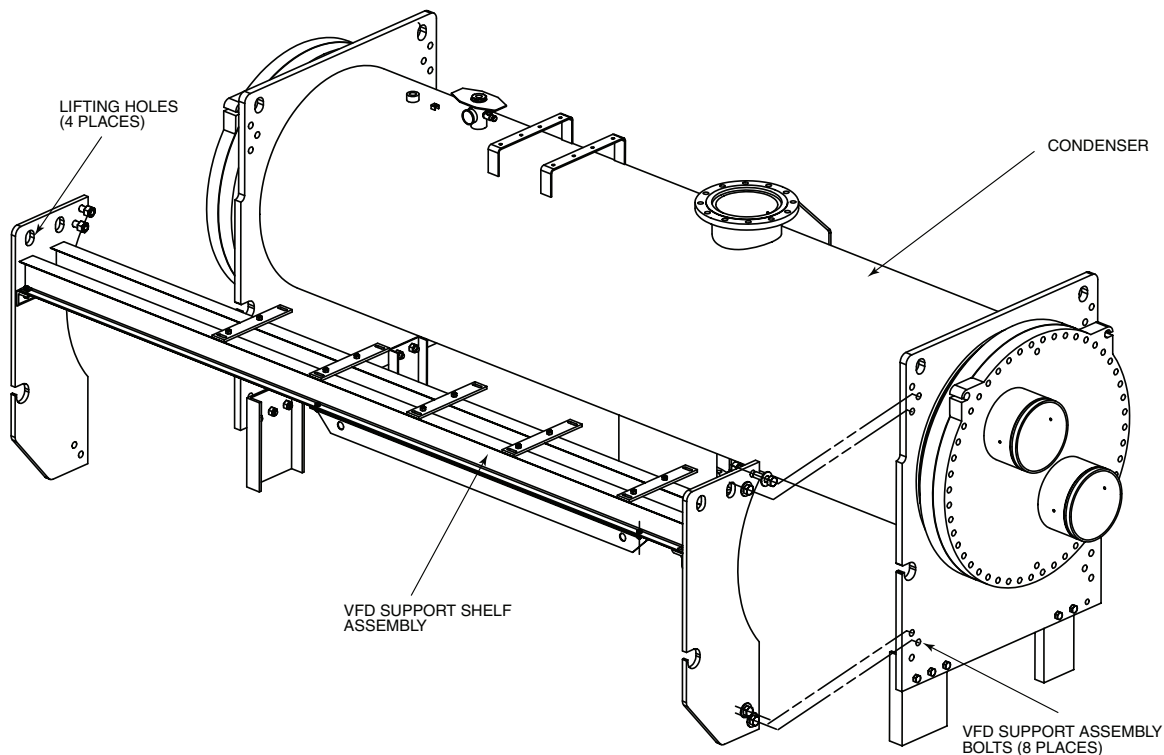

Fig. 20 — 1169A Support Assembly Installation
3. The VFD support assembly can be removed from the condenser if it is necessary to reduce the width of the condenser assembly. The eight 1 1/8-7 bolts that secure the VFD support assembly to the tubesheets should be torqued to 750 ft-lb when the support assembly is reinstalled. See Fig. 20.